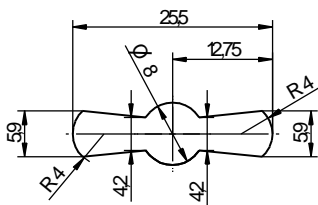
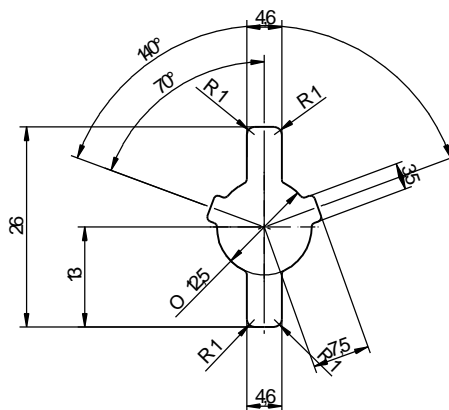

Figure 29: Key guide 86101
Figure 30: Key carrier guide
- For securing the required key cutout in the secure storage unit, it is recommended inserting the dormakaba key guide (see Figure 29) or the dormakaba key carrier guide (see Figure 30). In these cases, taking into consideration DIN 2768-mH, the key in the secure storage unit must be manufactured with the corresponding dimensions.